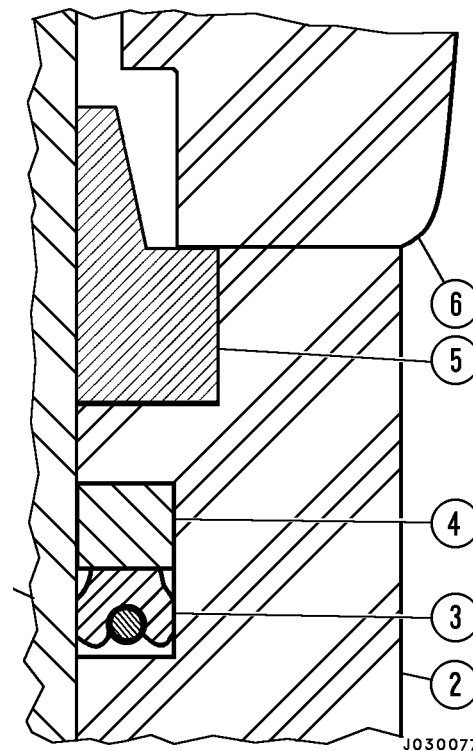

FIGURE 3-6. VALVE BODY SEAL INSTALLATION
1. Install poly-pak seal (3, Figure 3-6) in the seal groove first. Position the seal in the groove so that the internal O-ring inside the poly-pak seal is facing down toward the bottom of the valve.